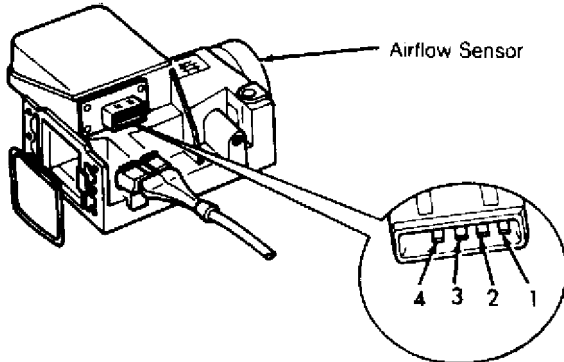

Fig. 2: Vanagon Airflow Sensor & Terminal Identification
2) With ignition off, unplug connector from airflow sensor. Attach ohmmeter to airflow sensor terminal. See Fig. 2. Resistance should correspond to AIRFLOW SENSOR PIN CHECK of AIRFLOW SENSOR SPECIFICATIONS table.